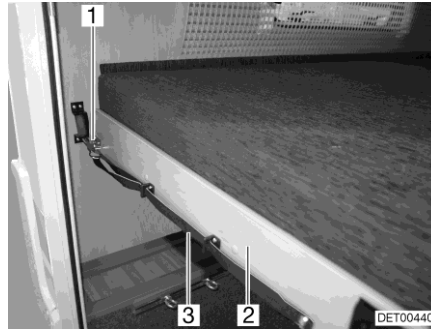

Fig. 89 Bunk bed (rear)
- Pull on the loop (Fig. 89,3) and release the latch (Fig. 89,1).
- Pull the slatted frame (Fig. 89,2) together with the mattress forward until it latches in place.